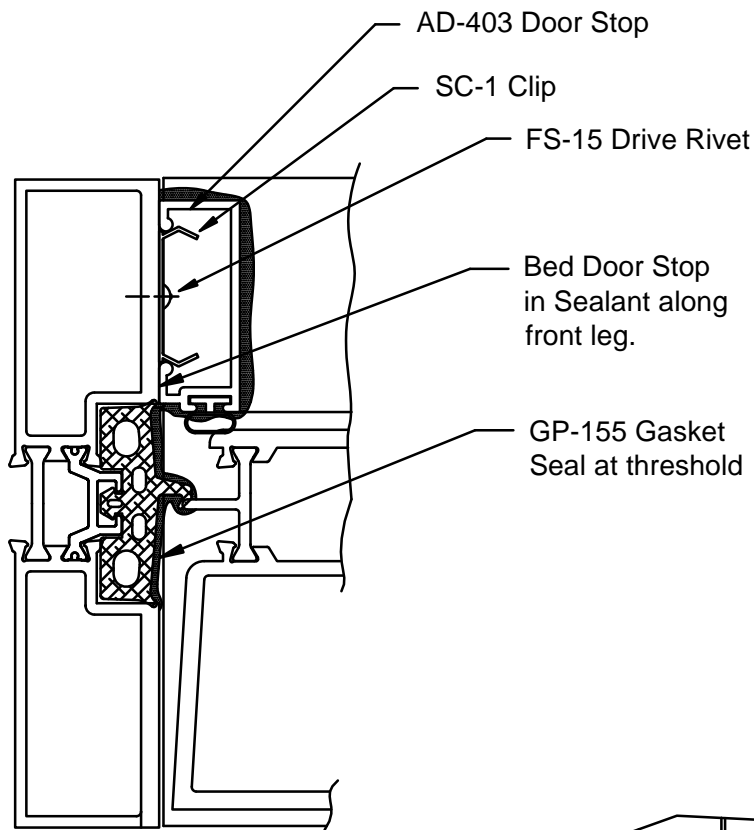

FIGURE 15
5. The GP-155 Gasket must also be sealed at threshold per FIGURE 15 & 16, pg 16.
6. Install AD-403 door stop. See FIGURE 15, pg.16.